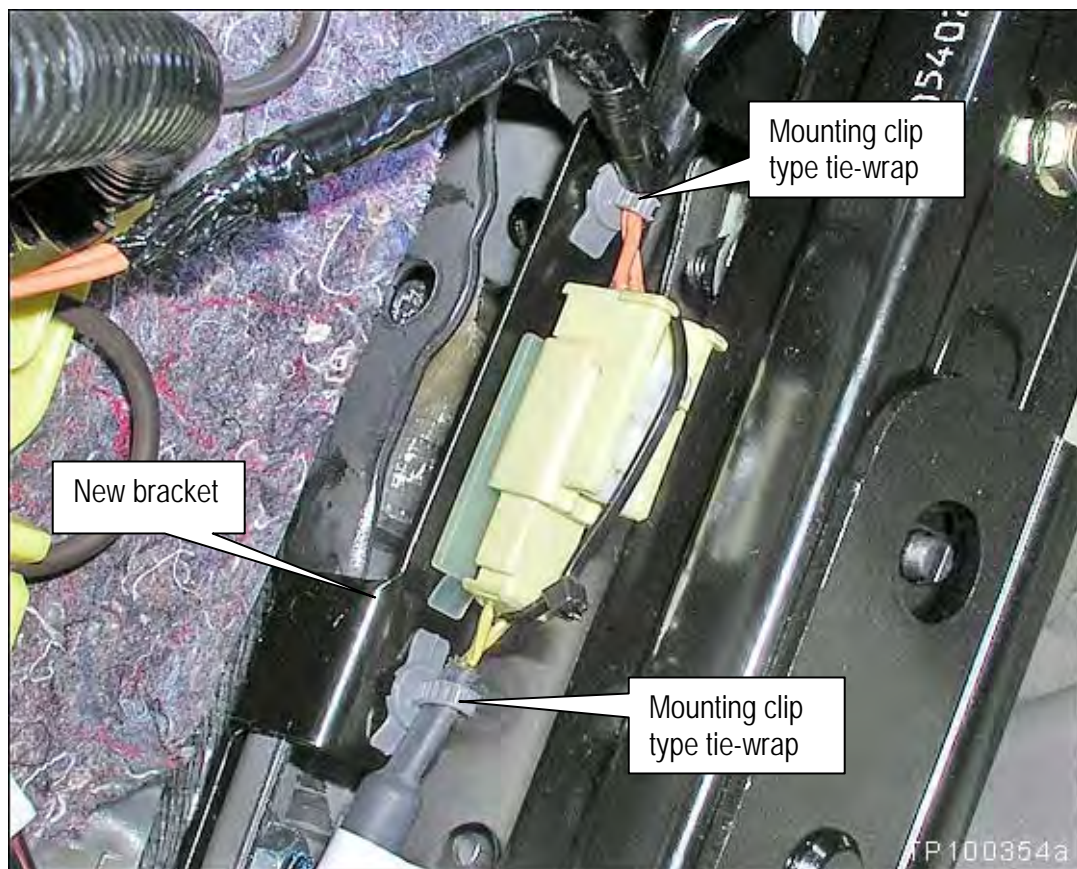

Figure 10a
13. Mount the SAB connector on the new bracket as shown in Figure 10a.